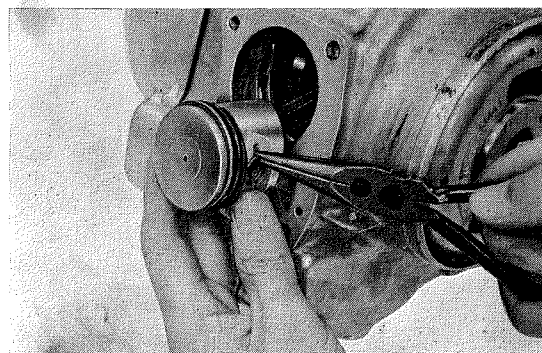

Fig. 34
3. Remove the piston pin clip and piston pin, and then separate the piston from the connecting rod. (Fig. 34)